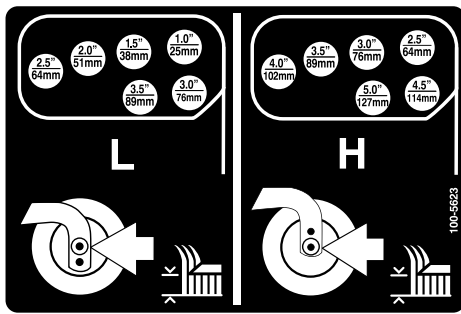

Figure 28
7. Rotate the tension rod to raise or lower the pivot arm until the holes are aligned with the selected height-of-cut bracket holes in the mower-deck frame (Figure 27 and Figure 28).